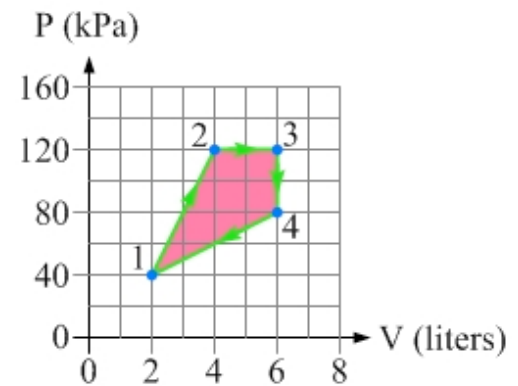

Figure 15.30: The P-V diagram for a four-process cycle, for Exercises 37 and 38.
37. Consider the four-process cycle shown in the P-V diagram in Figure 15.30. (a) What does the area of the enclosed region, shown in red, represent? (b) What is the area of one of the boxes on the P-V diagram? (c) Estimate how many such boxes it would take to equal the area of the enclosed region. (d) Estimate the work done by the gas in one cycle.
38. Consider the four-process cycle shown in the P-V diagram in Figure 15.30. Find the work done by the gas in the process taking the system from (a) state 1 to state 2, (b) state 2 to state 3, (c) state 3 to state 4, (d) state 4 to state 1. For the entire cycle determine (e) the net work done by the gas, (f) the net change in internal energy of the gas, and (g) the net heat added to the gas.